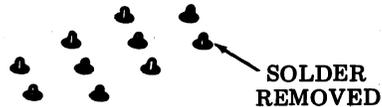

Fig. 25—Connector Pins
- (c) Remove solder from around connector pins of cable to be removed (Fig. 25).